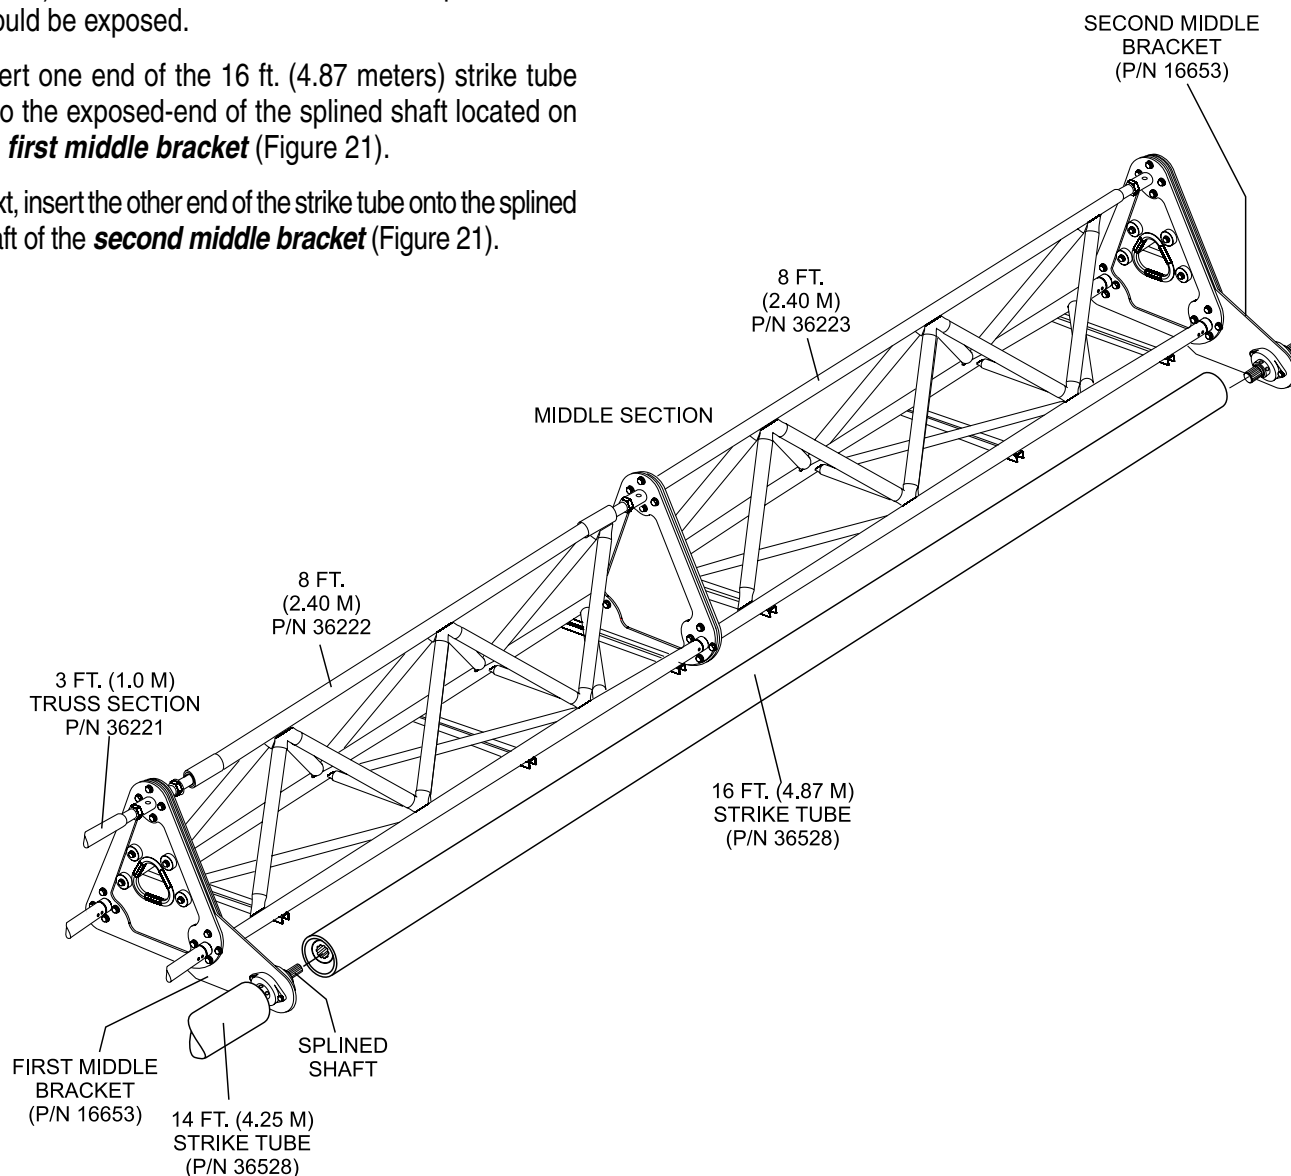

Figure 21. Strike Tube Middle Section (16 ft./4.87 meters)
The 14 ft. (4.25 meters) strike tube section should now be attached to the matching section of truss (Figure 21). The following section will illustrate inserting the middle section strike tube.
2. Insert one end of the 16 ft. (4.87 meters) strike tube onto the exposed-end of the splined shaft located on the **first middle bracket** (Figure 21).
3. Next, insert the other end of the strike tube onto the splined shaft of the **second middle bracket** (Figure 21).